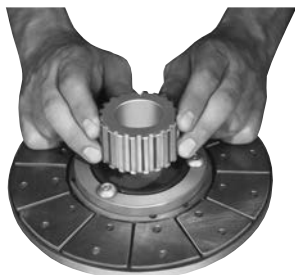

Figure 4
- b. Push the splined hub, with the retainer ring groove down, through the autogap spring and splined armature adapter. (Figure 4) (Considerable force is required to push the hub through the armature.)